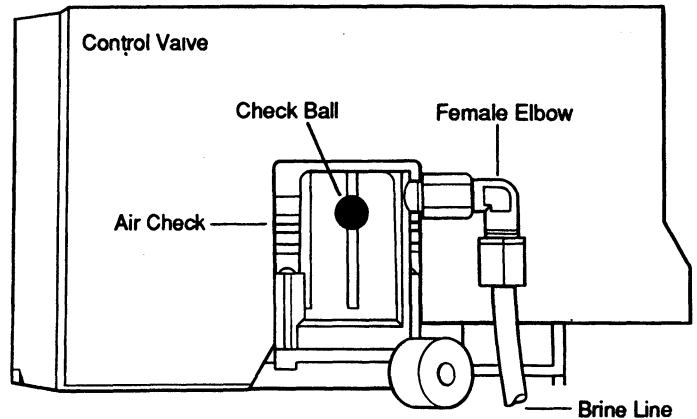

Figure 7
- B. Carefully advance pointer knob COUNTERCLOCKWISE to center of BRINE REFILL position and hold there until air check (Figure 7) fills with water and water starts to flow through brine line into brine tank. Do not run for more than 1 or 2 minutes.